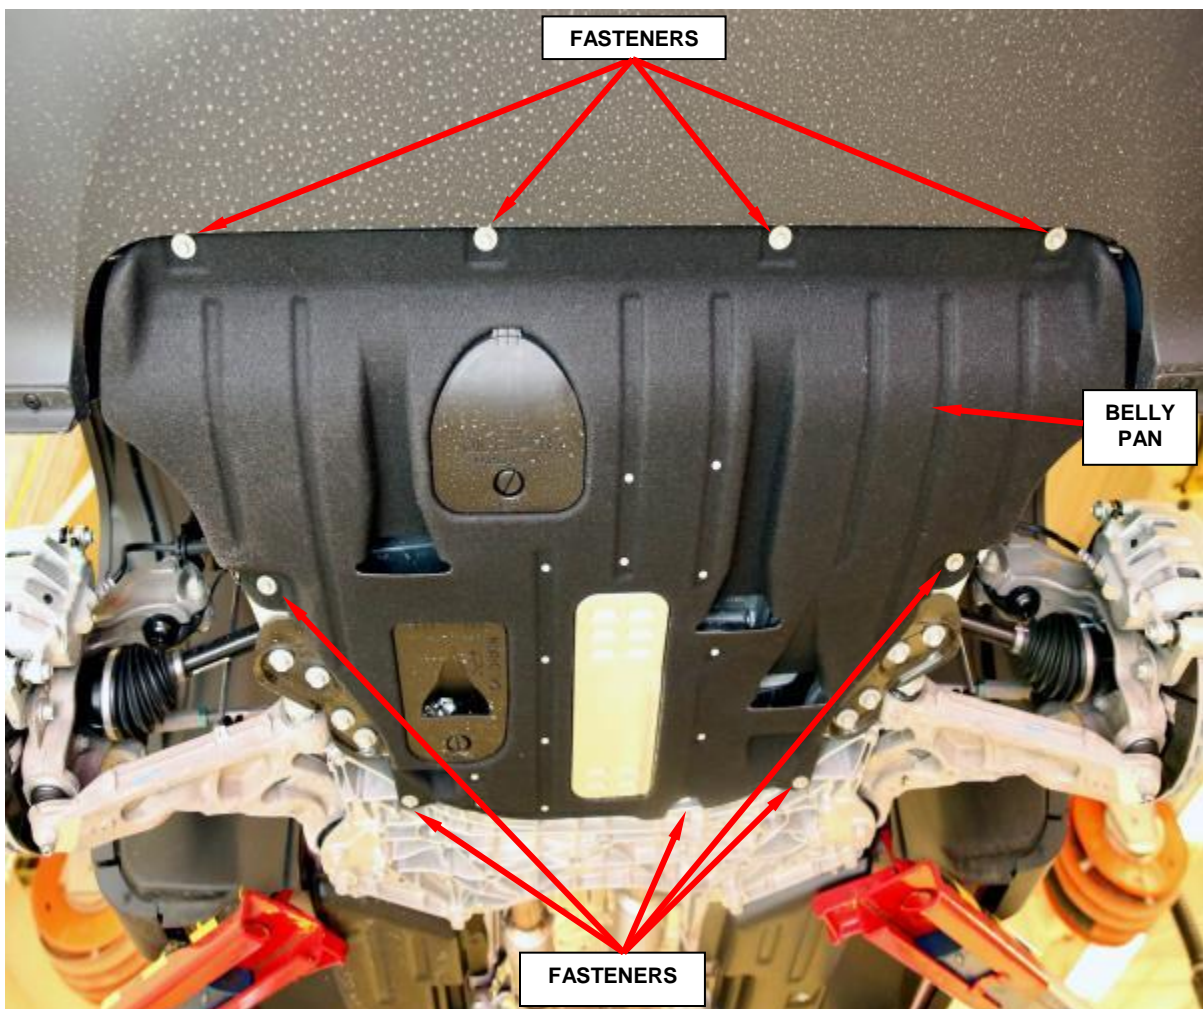

Figure 2 – Belly Pan
5. Remove and save the nine engine belly pan fasteners and remove the belly pan, if equipped (Figure 2).
19. If equipped, install the engine belly pan and tighten the fasteners securely (Figure 2).